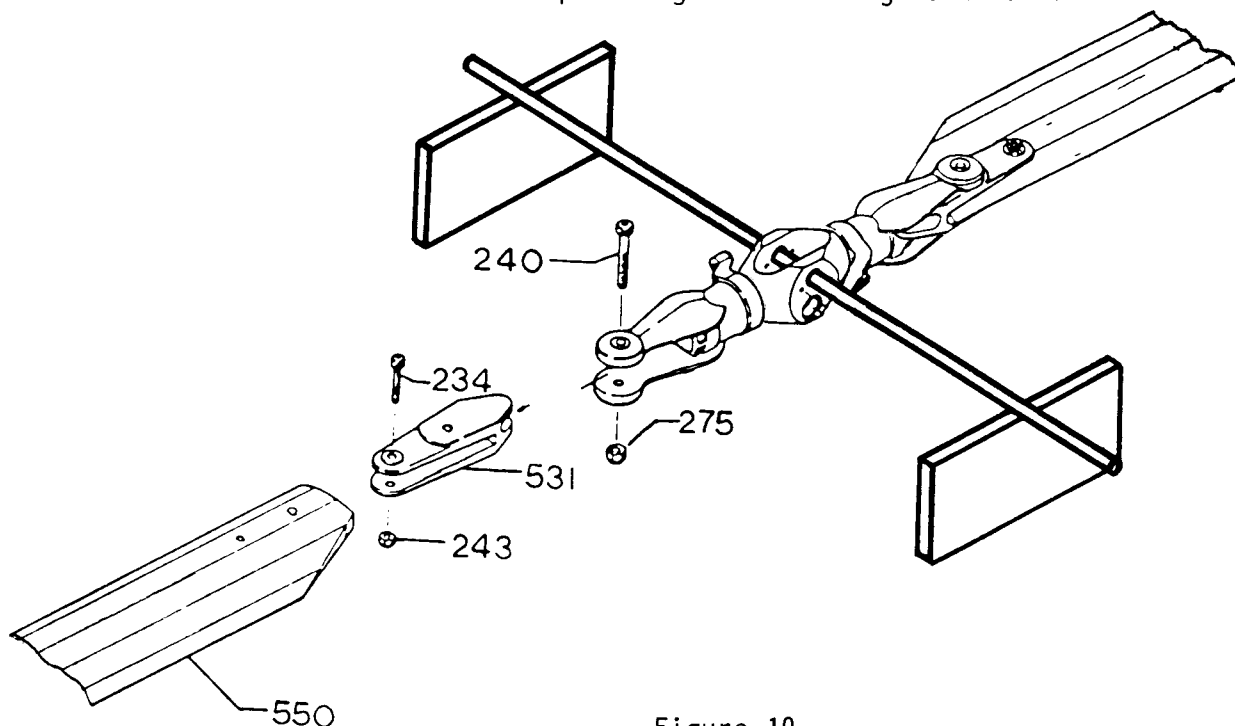

Figure 10
STEP 10 COVERING AND BALANCING OF MAIN ROTOR BLADES - see Figure 10
- ✓ G. To balance head, first make sure blades are parallel to the head. Place a suitable round axle through either large set of holes in the head and suspend in a "Hi-Point" balancer or other suitable balancer. A round tube or pencil and two straight edges of metal or ply will also do the job. (See Figure 10.)